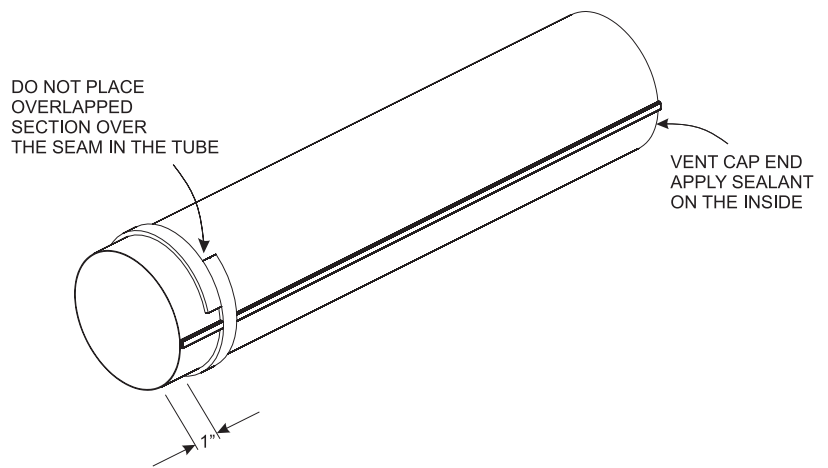

Figure 66
12. Seal the 4-inch diameter flue outlet tube. Follow instructions and diagram (**Figure 66**).
If the air inlet and flue outlet tubes are to be connected directly to the unit (no rigid venting system is being used), then the gasket provided must be used to seal the 4-inch flue outlet tube. Peel the paper off the self-adhesive gasket and then wrap it around the end of the tube (if tube was cut, it is recommended to use cut end) as shown in **Figure 66**. Pull the gasket tight at all times while wrapping it around tube. The gasket ends should align, to form a complete seal. The overlapped section should NOT come in contact with the seam in the tube. Apply high temperature sealant to the opposite end of the tube (on the inside of the tube). The end with the gasket will attach to the back of the unit. Continue with Step 13.